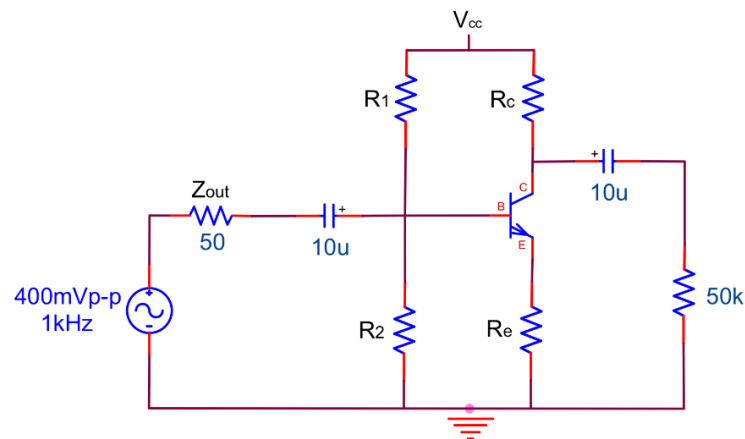

Figure 6.2
1. Refer to Figure 6.2. Using the 2N2222A transistor, design a common emitter amplifier with the following specifications: